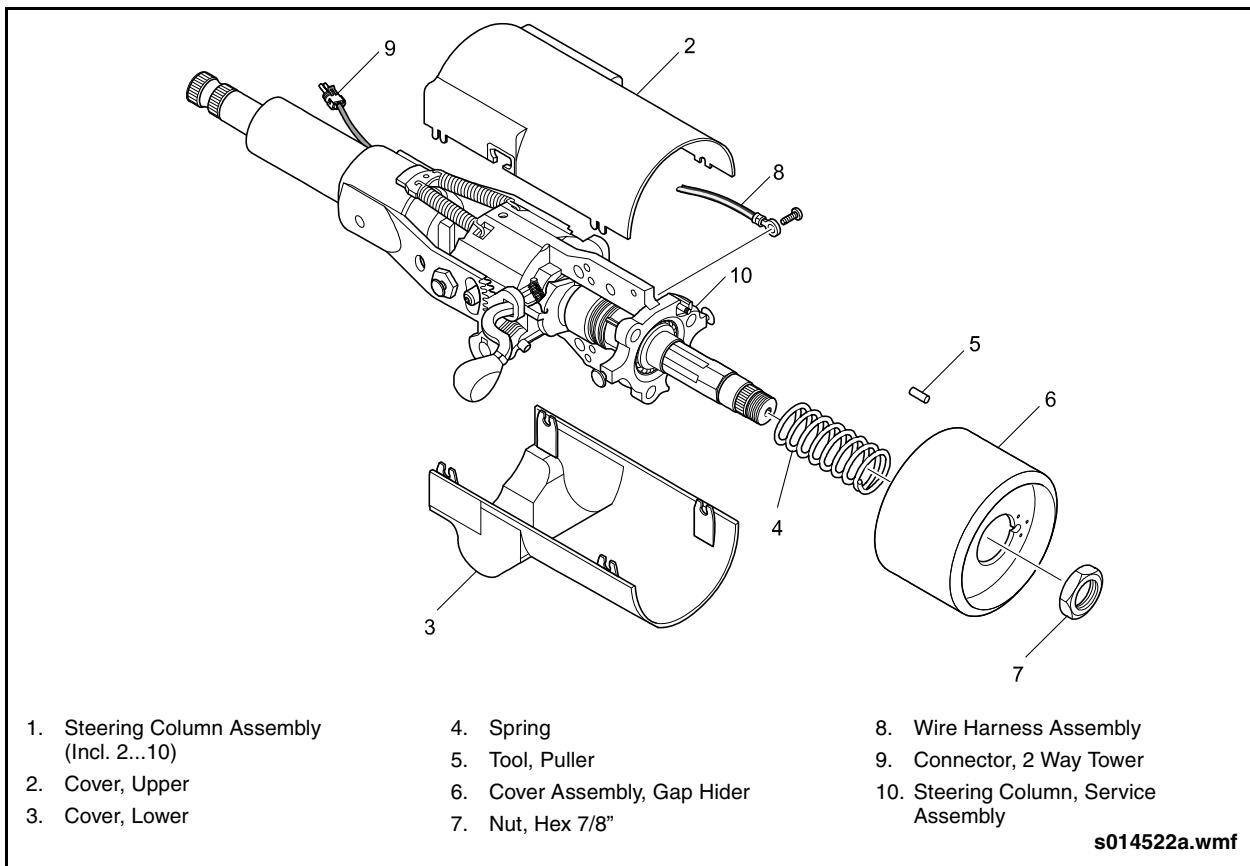

Fig. 3-10: Steering Column Assembly
9. Remove steering column from vehicle. See “Fig. 3-10: Steering Column Assembly” on page 18.